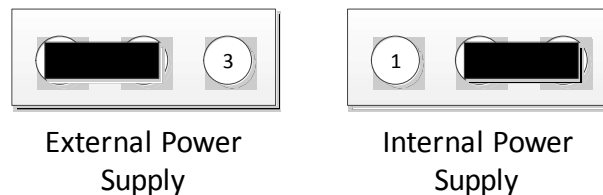

Figure 1: VDD IO Jumper Settings
**J8 – Input** is the jumper used to enable VDD analog source. The terminal header is two way jumpers. It can be jumpered either pin 1-2 or 2-3 (Figure 1) to use external power or a regulated internal supply +3.3V.